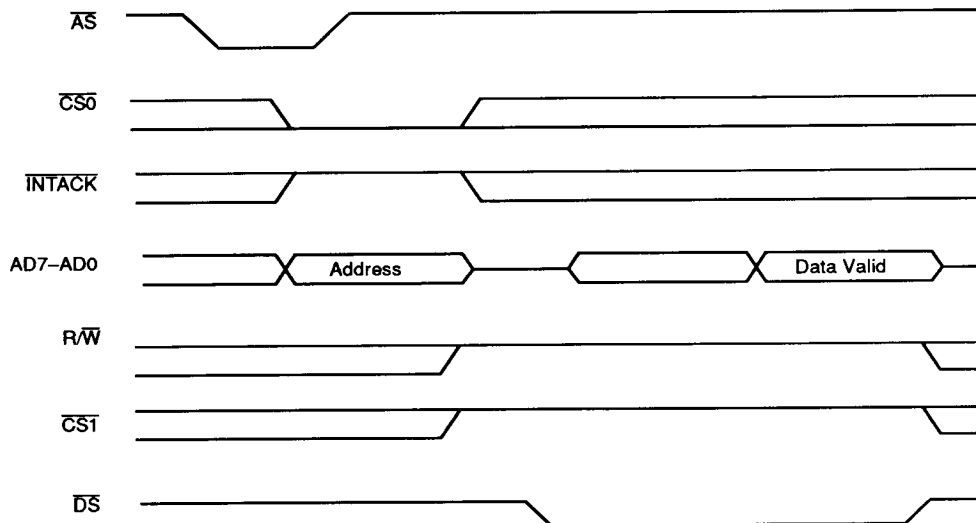

Figure 9. Read Cycle Timing
In the Am8030 all registers are directly addressable from the multiplexed Address Data bus. See Figures 9 and 11 for timing. The Am8030 can operate in either of two modes: when bit 0 in Write Register 0 is reset (or after initialization with a hardware reset), Address lines AD5 through AD1 select the register to be read from or written into during Data Strobe (DS). This is called left shift and is the natural Z8000 mode.) When bit 0 in Write Register 0 is set, Address lines AD4 through AD0 select the register to be read from or written into. (This is called right shift and is more natural for interfacing with other microprocessors.)
Figure 9 illustrates Read cycle timing. The address on AD7-AD0 and the state of $\overline{CS0}$ and \overline{INTACK} are latched by the rising edge of \overline{AS} . R/\overline{W} must be High to indicate a read cycle. $\overline{CS1}$ must also be High for the read cycle to occur. The data bus drivers in the SCC are then enabled while \overline{DS} is Low.